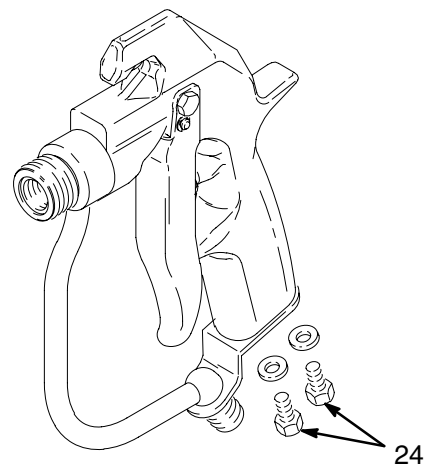

Fig. 19 04733
7. Install the screws (24). See Fig. 19.